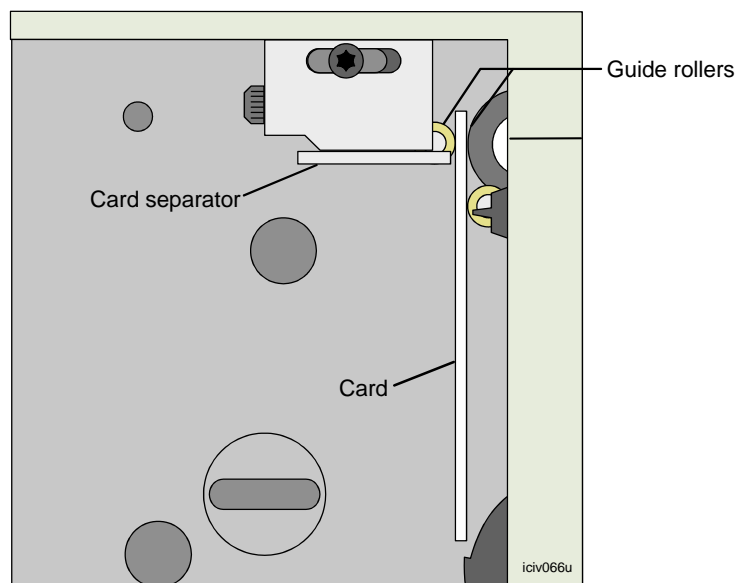

Figure 3-11: Correct card thickness setting
- If the card almost touches the card separator, you have successfully completed the setting (Figure 3-11). Continue with step 6.